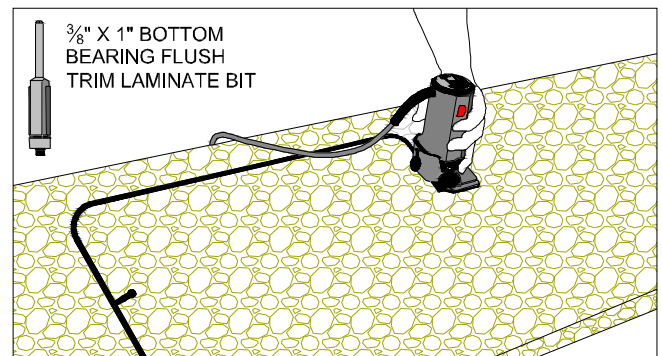

Figure 29A
- Use a laminate trim router with a  $\frac{3}{8}$ " bottom bearing flush trim bit. (FIG. 29A)
- Route around the inside of the sink ring. (FIG. 29A)